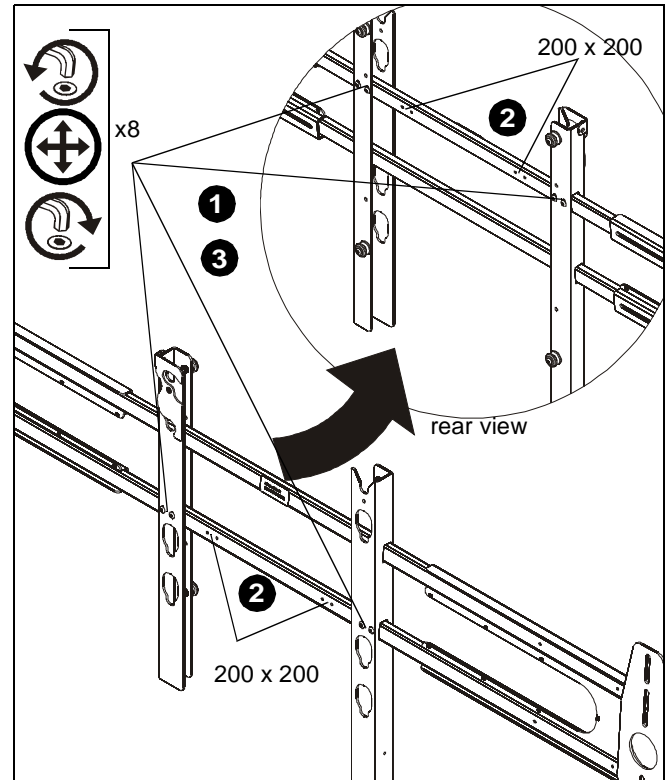

Figure 2
1. Remove eight button head cap screws securing uprights to speaker rails. (See Figure 2)
2. Reposition uprights so that eight mounting holes are aligned with eight inner (200 x 200) mounting holes in speaker rails. (See Figure 2)
3. Secure uprights to speaker rails using eight button head cap screws. (See Figure 2)